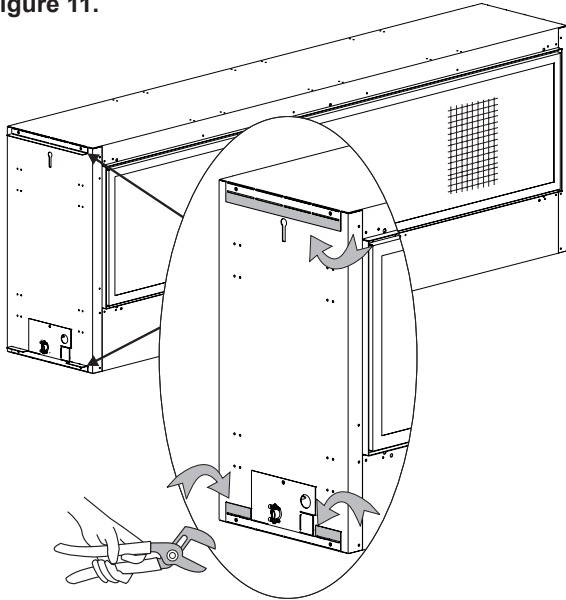

Figure 11
1. At the top and bottom of the fireplace, use pliers to bend each side standoff 90 degrees away from the cabinet. See **Figure 11**.